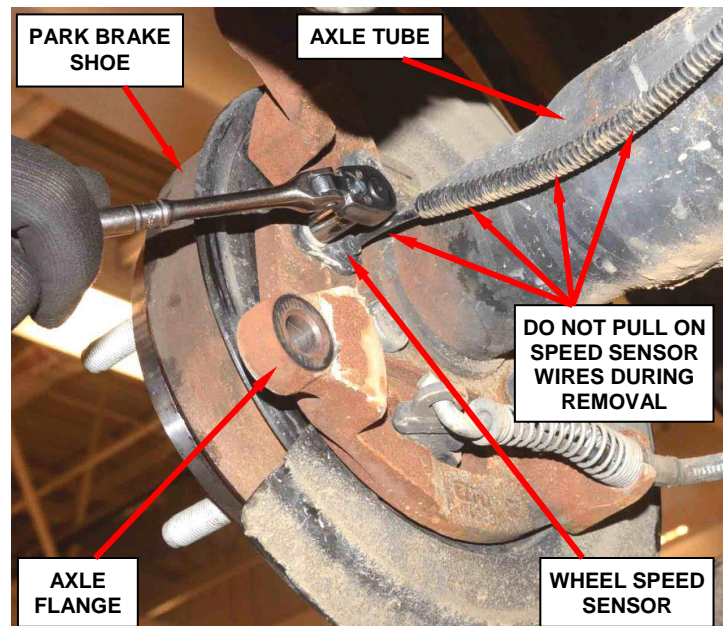

Figure 14 – Speed Sensor
4. Remove and save the mounting bolt from the rear wheel speed sensors (Figure 14).
5. Remove the right and left side wheel speed sensors from the axle flanges (Figure 14).